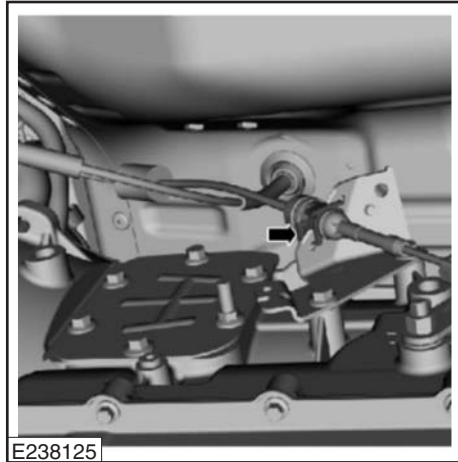

Figure 93
1. If necessary, open the adjuster lock (**Fig. 93**).